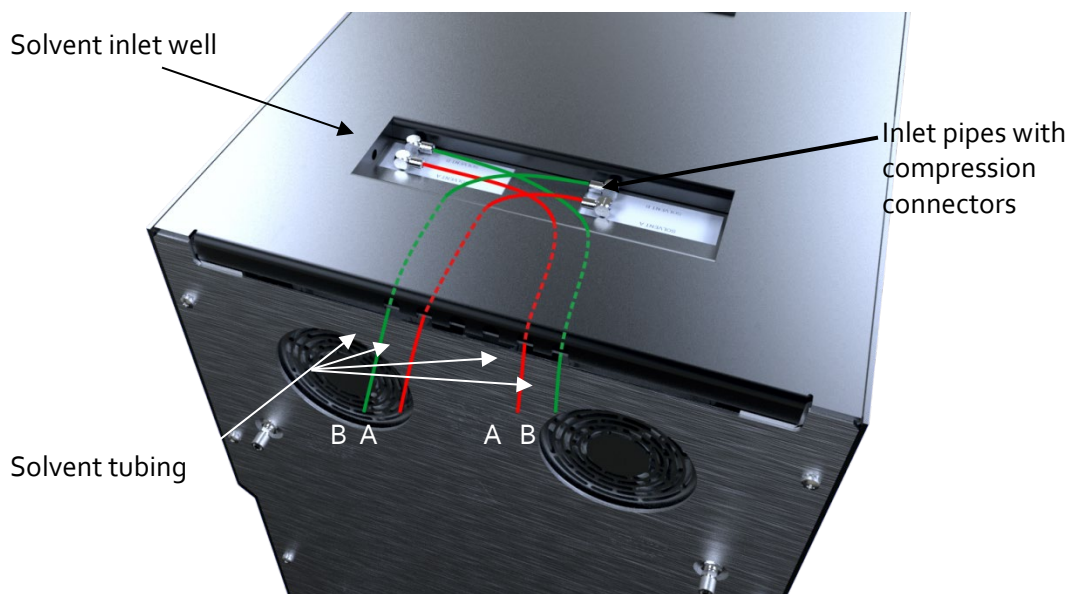

Figure 3 — Solvent Inlets
5. Connect the solvent tubing to the CAV 4.2. See Figure 3.